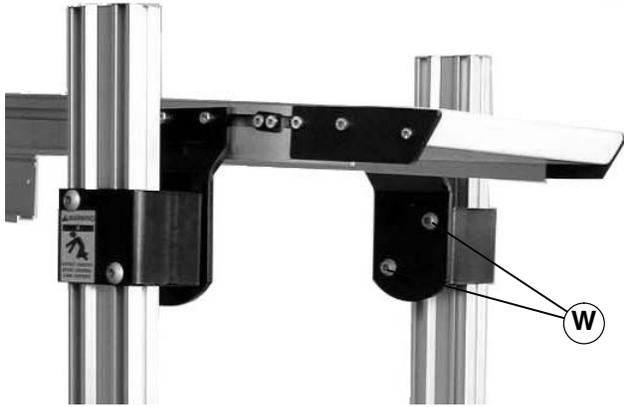

Figure 14
1. Loosen two flange socket head screws (W of Figure 14) on both sides of stand.
<p>! WARNING</p> <p>Failure to secure screws (W of Figure 14) may cause conveyor sections to drop down, causing severe injury.</p> <p>TIGHTEN SCREWS (W) AFTER ADJUSTMENT.</p>
- Secure flange socket screws (W of Figure 14) to 24 ft-lb (18 Nm).